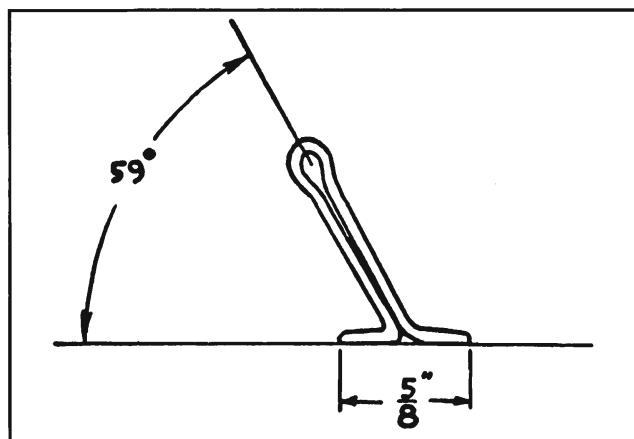

Fig. 6-49 Tool for Removing Upper Half of Main Bearing
4. Make a tool for removing upper half of bearing shell as shown in Fig. 6-49; J-8080 can also be used.